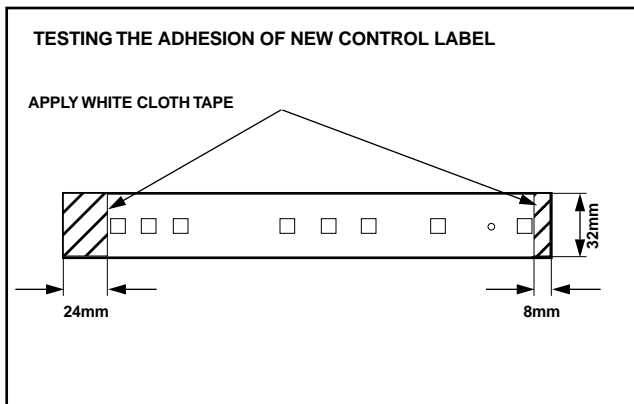

Figure 2
4. Place the adhesive-side of the white cloth tape as shown in Figure 2.